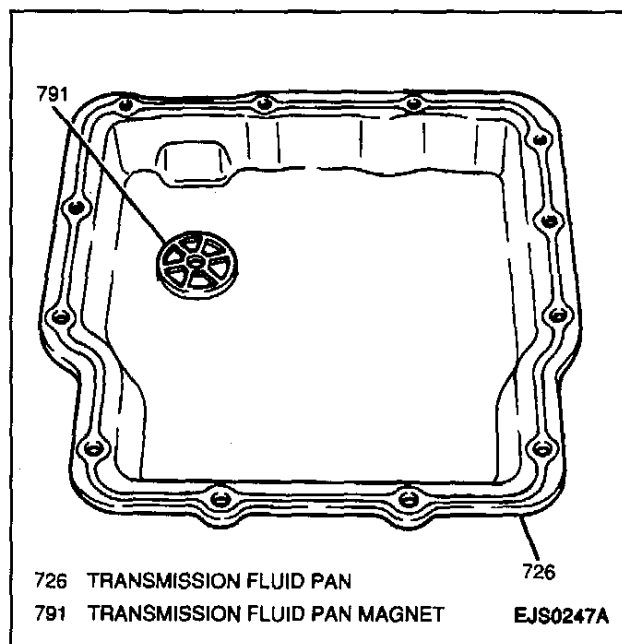

Figure 31—Transmission Fluid Pan and Magnet (3L30, 3-Speed Shown, 03-72LE, 4-Speed Similar)
- A small amount of clutch material in the bottom of the transmission fluid pan is a normal condition and is consistent with normal transmission wear. The bottom of the fluid pan is equipped with a magnet that will collect minute metal filings (Figure 31). However, if large amounts of clutch material, metal shavings or other foreign matter are present, transmission disassembly and inspection is indicated.
2. Transmission fluid pan and fluid pan magnets with solvent and air dry (Figure 31).